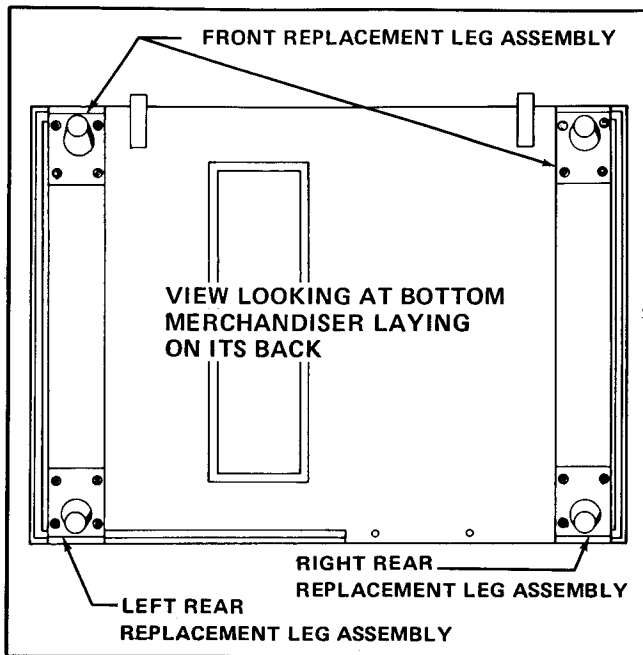

FIGURE III-1
1. The two front Leg Assemblies and the left-hand rear (Drum Assembly area side) Leg Assembly require the drilling and tapping of 4 holes for each Leg Assembly replaced. See Figure III-1.